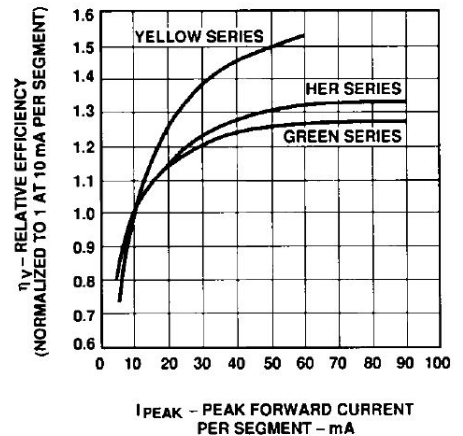

Figure 7. Relative Luminous Efficiency (Luminous Intensity per Unit Current) vs. Peak Current.
- See Figure 7 to establish pulsed conditions.